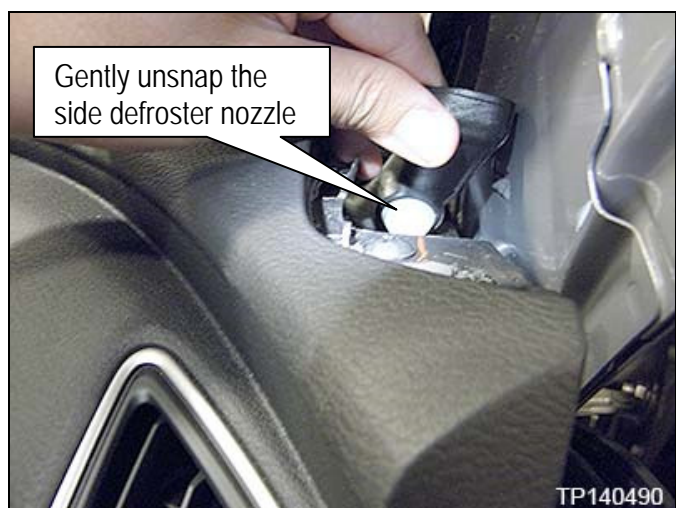

Figure 16
- Unsnap the passenger side defroster nozzle and move to the side to gain access to the right side Moonroof drain hose exit port (Figure 16).